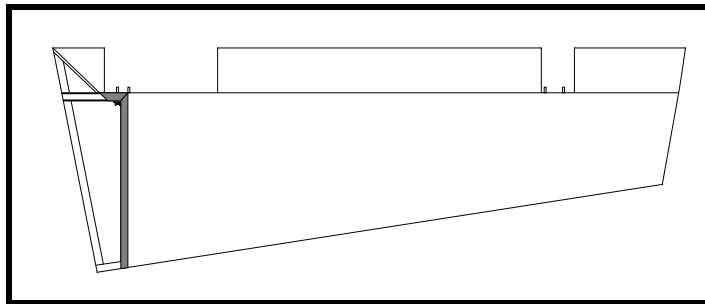

Figure 15
- ❑ Fit the trailing edge skins for the right and left side. See Figure 15. Leave extra material at the upper end for bending.